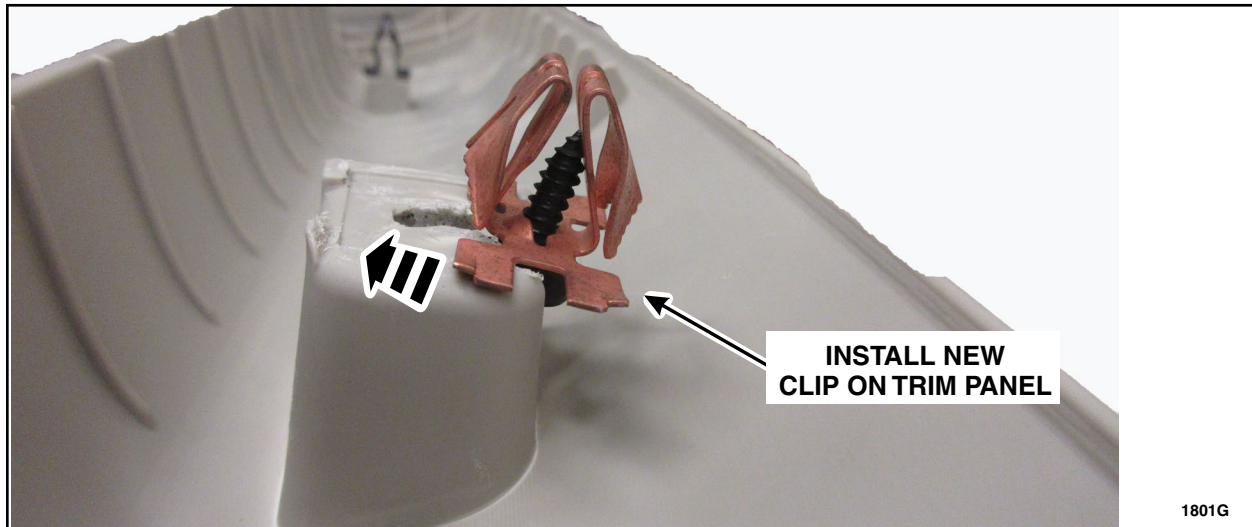

FIGURE 9
9. Install the new A-Pillar trim panel clip onto the trim panel. See Figure 9.